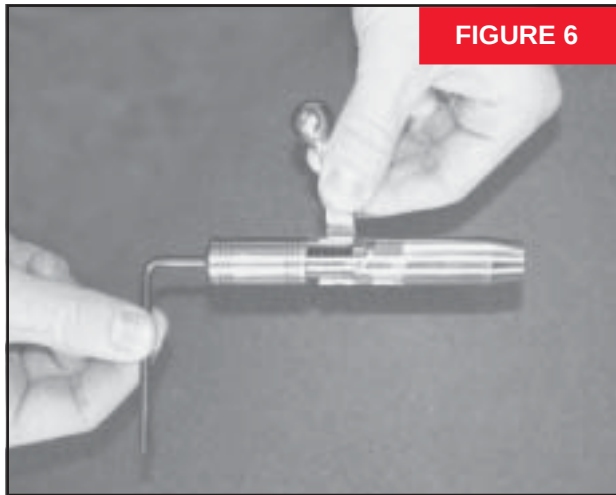

FIGURE 6
- bolt handle, and bolt body will now come apart (Figure 6).